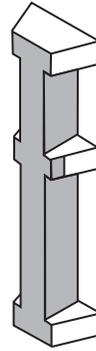

Figure 8-4 Adhesive Application
3. Use the applicator on the tube to apply a thin, uniform layer of Loctite Prism 454 adhesive to the tube guide surfaces to which the shim is to be bonded. To achieve a good bond you must apply adhesive to all of the shaded areas (See Figure 8-4).